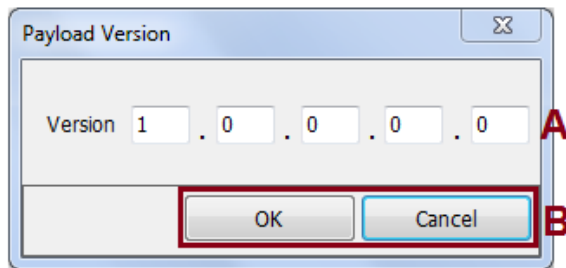

Fig 5-6 **Payload Version** window
3. Enter the version of the UUT in the corresponding field Fig 5-6 \(A\).